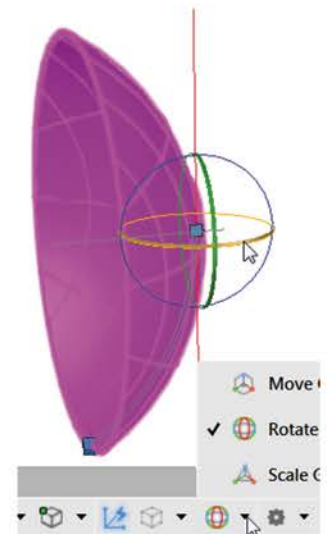

Fig. 11.20 Example 3D Rotate
EXAMPLE – 3D ROTATE (FIG. 11.20)
4. The result is shown in Fig. 11.20.